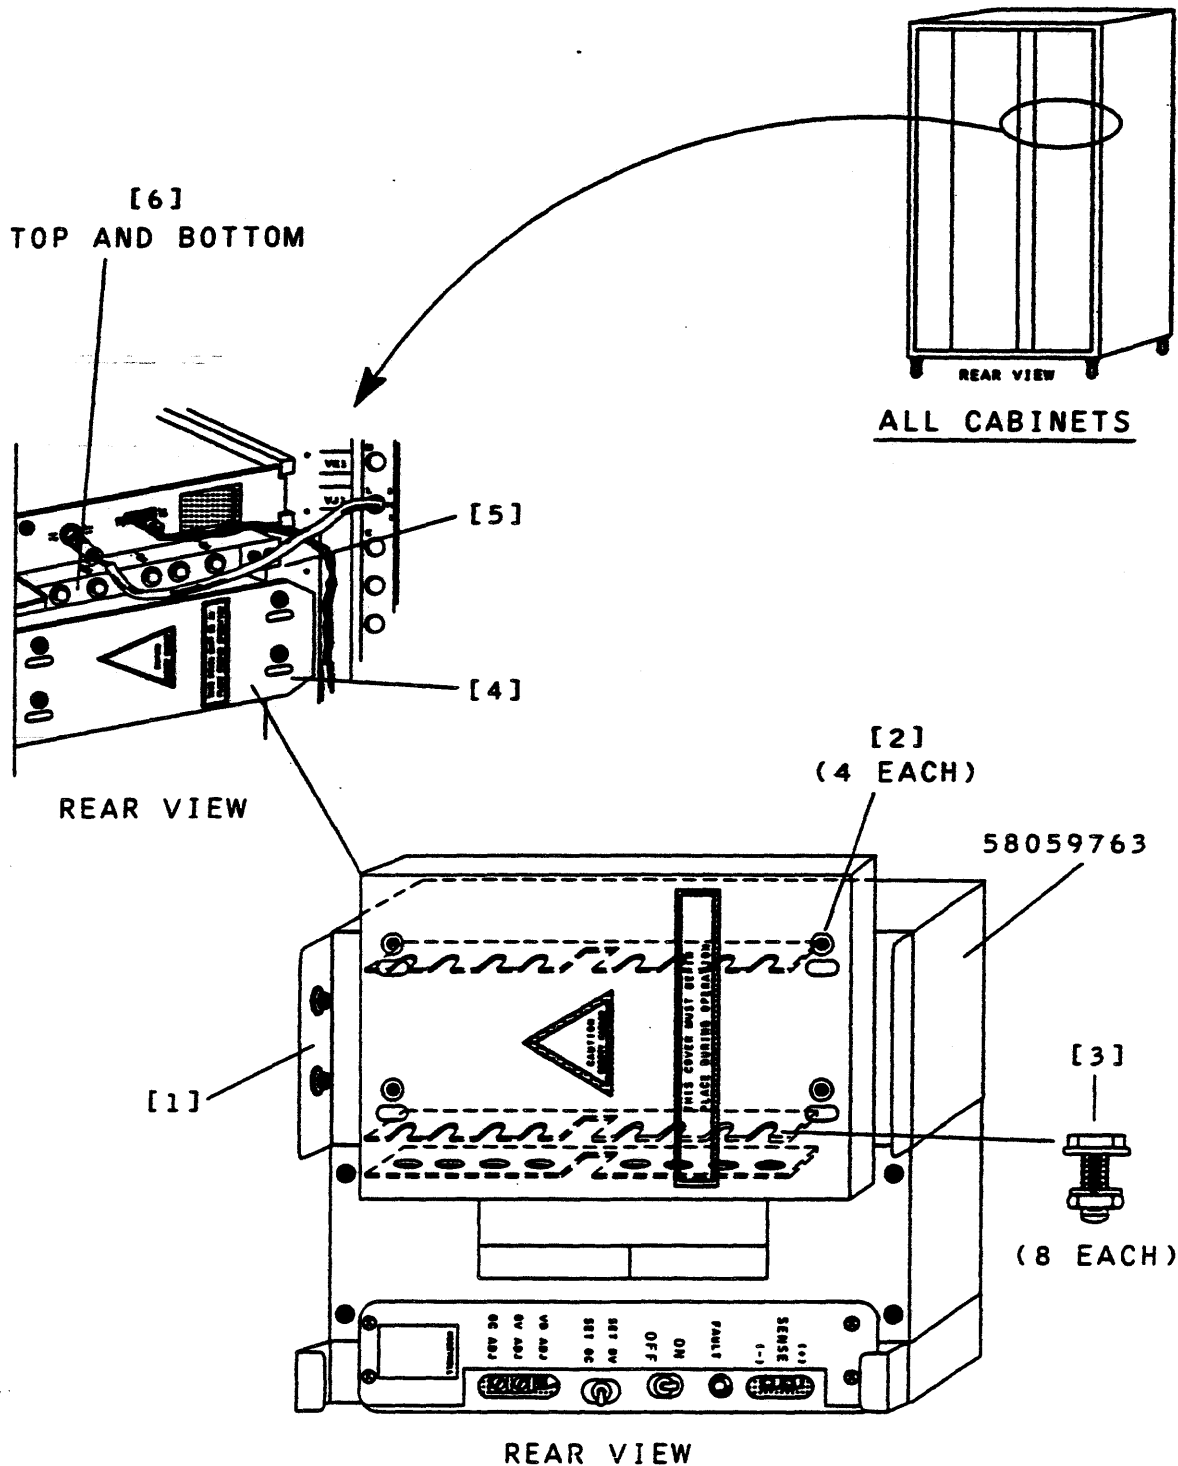

FIGURE 2.18-1. FILTER MODULE REMOVAL/INSTALLATION
6. Using cross-tip screwdriver, remove module's front securing bracket retaining hardware (Figure 2.18-1, [1]).
7. Using cross-tip screwdriver, remove module's front bus cover and retaining hardware (Figure 2.18-1, [2]).
9. Using cross-tip screwdriver, remove module's rear bus safety shield and retaining hardware (Figure 2.18-1, [4]).